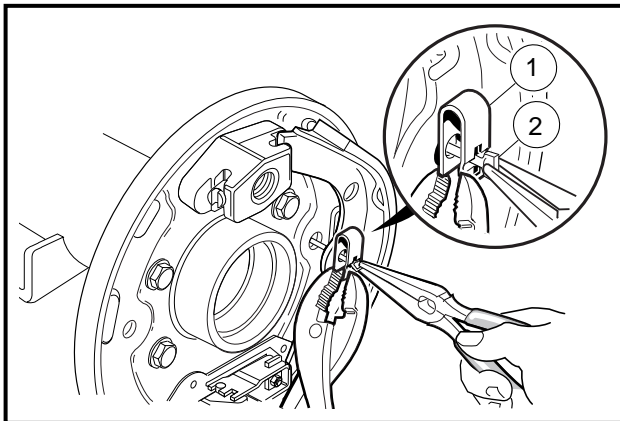

Figure 6-4 Rotate Clip Retainer
7. Using needle nose pliers, rotate the clip retainer pin (2) 90° to remove the shoe retainer clip (1) on each shoe (**Figure 6-4, Page 6-3**). **See following CAUTION.**